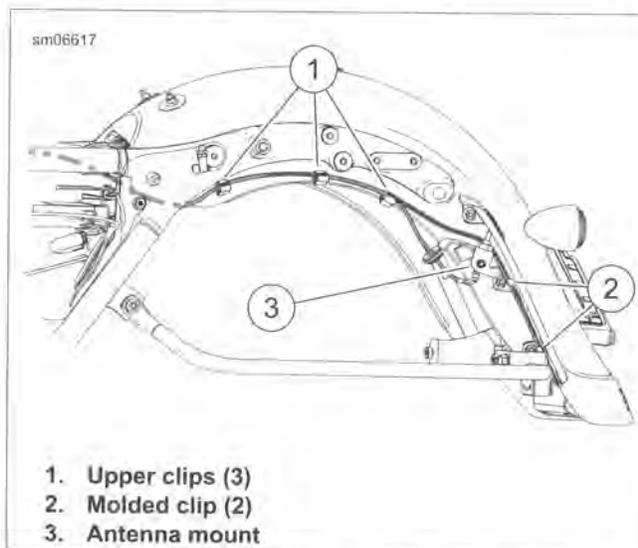

Figure 7-93. Rear Fender Lamps Harness and Antenna Cable: FLHX/S
2. See Figure 7-93. Release antenna cable from three upper clips (1).
- See Figure 7-93. Pass connector through grommet and connect to bottom of antenna.
- Capture cable in three upper clips (1).